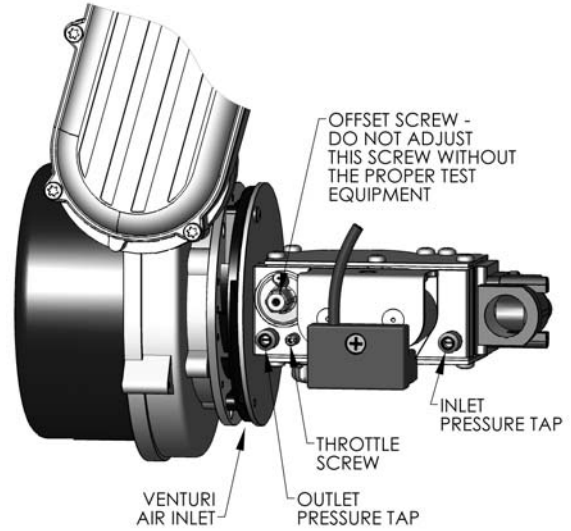

Figure 5.2: Gas Valve/Venturi
2. Table 5.3 shows the maximum and minimum fuel gas supply pressure to be measured at the gas valve inlet pressure tap. See figure 5.2.
- c. Using a flat screwdriver, turn the screw inside the inlet tap fitting (see Figure 5.2) one turn counter clockwise.
1. Figure 5.2 is an illustration of the gas valve/venturi assembly for the PUREFIRE® boiler.
- a. Adjustments should not be made to the gas valve without instrumentation to measure carbon dioxide (CO₂) and carbon monoxide (CO) emissions in the vent pipe.